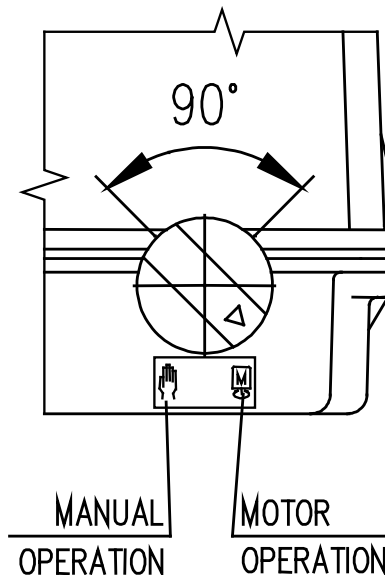

Fig. 11
- Turn the button for gear disengagement to the right by 90° (Fig. 11, the button arrow shows the symbol of hand) this disengages the gear in the actuator.